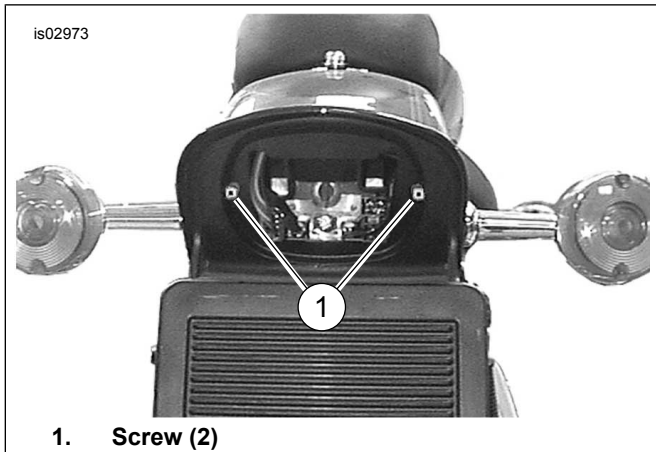

Figure 1. Remove Tail/Stop Lamp Lens (2000 FXSTS Shown)
- a. See Figure 1. Remove two screws (1) securing tail/stop lamp lens assembly and remove lens assembly.